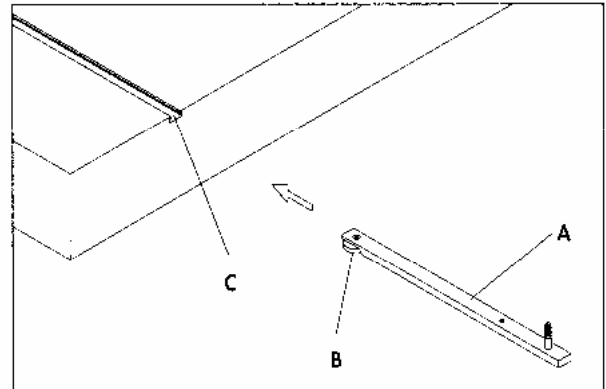

Fig. 3.28
1. Locate the miter gauge bar (A) Fig.3.28, and insert washer and (B) of bar into T-slot (C) of machine table.